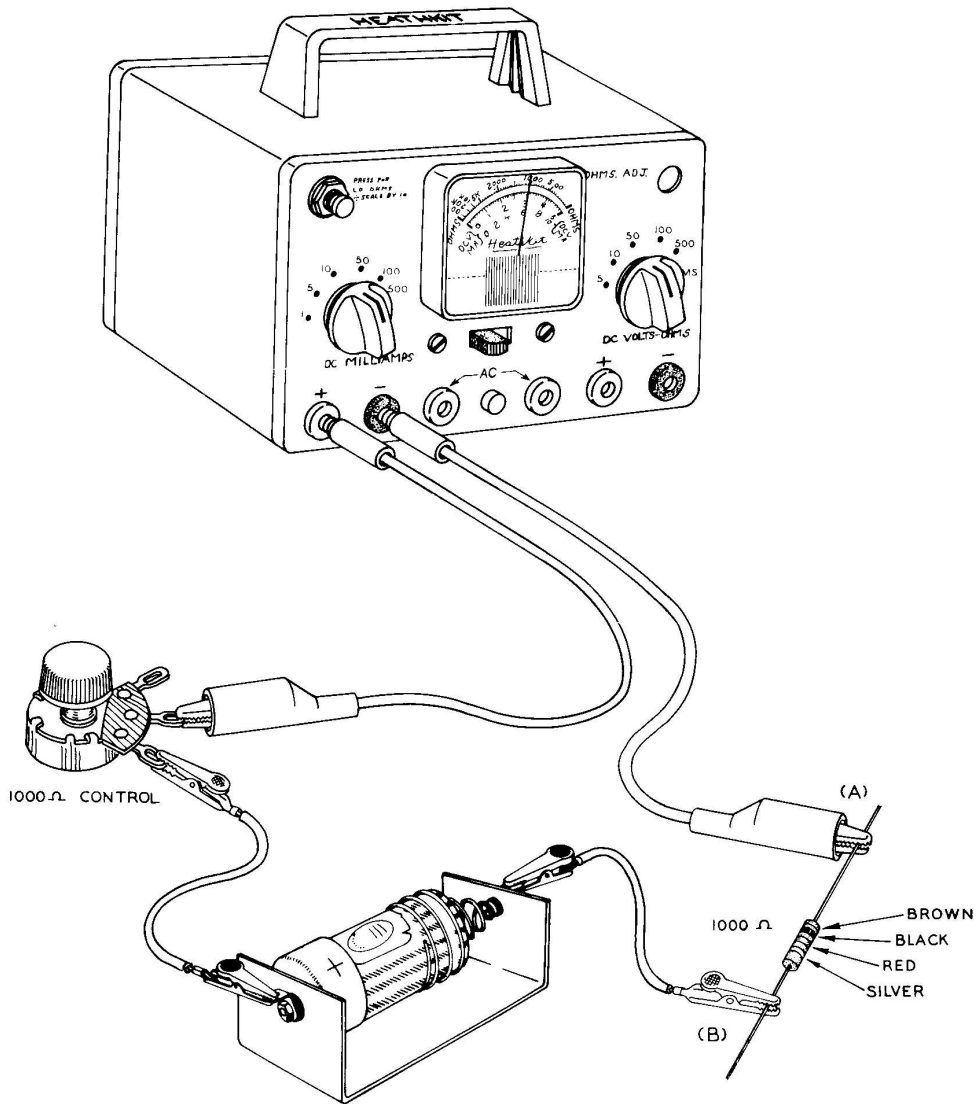

Figure 3-11
Since the two test leads (A) and (B) were held together in order to complete the circuit, zero resistance now exists between the two leads. The full scale position is then marked "0", as this is where the pointer rests when there is zero resistance between the two leads. Now clip a 1,000  $\Omega$  resistor (brown-black-red and silver bands painted on the body of the resistor) between the two test leads, as shown in Figure 3-11, and observe the new location of the pointer.